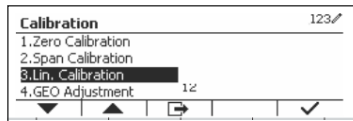

Figure 13
- Exit Span Calibration by pressing the softkey corresponding to the ✓ icon. (See Figure 13)